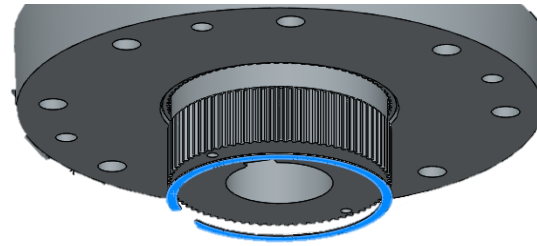

Figure 5 - Driver Removal
- Carefully pull the spline driver out of the drive hub. **Figure 5 - Driver Removal**